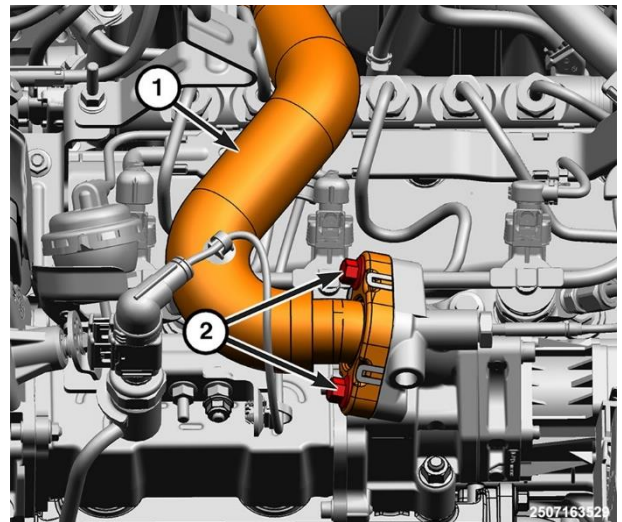

Figure 109 – Lower EGR Tube
- 26. Remove the lower EGR tube bolts (2) and the EGR tube (1) (Figure 109).